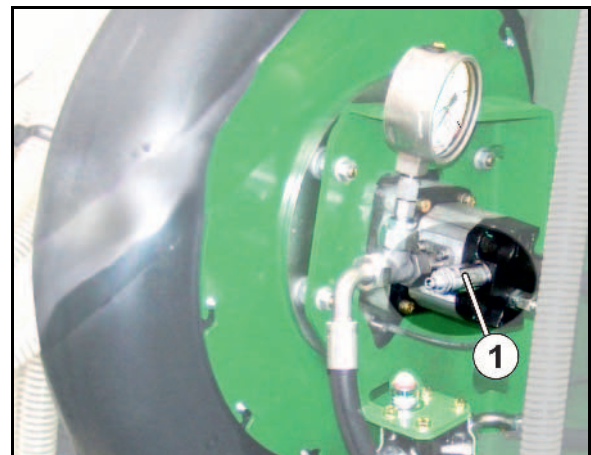

Fig. 94
5. Loosen the locking button (Fig. 94/1) of the gearbox setting lever.
6. Move the pointer of the gearbox setting lever (Fig. 94/2) to one of the following gearbox positions:
7. Tighten the locking button (Fig. 94/1).